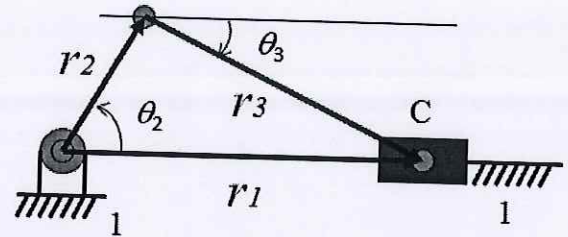

Figure 3 Slider-crank
3. Figure 3 show a crank-slider. For the mechanism, if $r_2=6\text{cm}$, $r_3=4\text{cm}$, and $\theta_2=60^\circ$. Using instant center method, find the linear velocity of slider 4 (V_C). (20%)